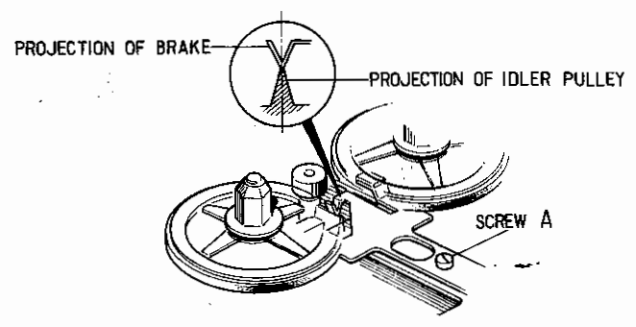

Fig. 5.8
Remove the cassette case referring to the item 3.5, cassette case ass'y removal procedure. Refer to the Fig. 5.8.